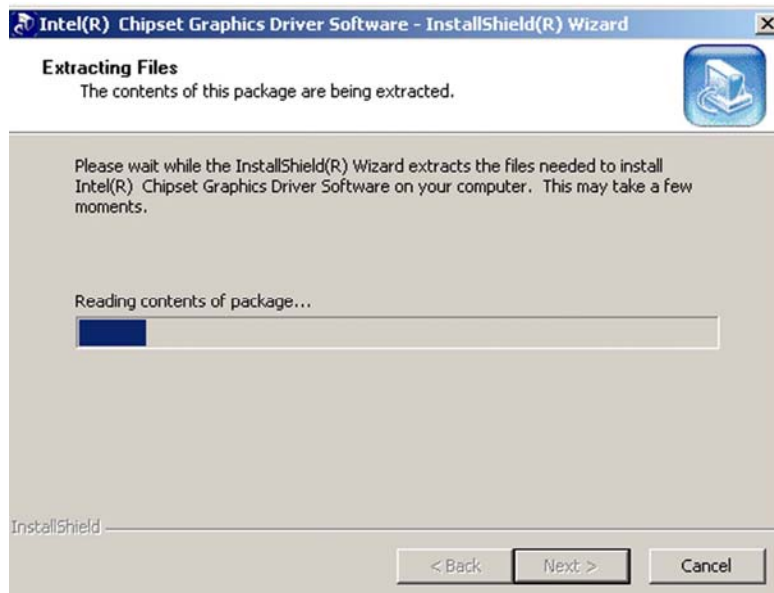

Figure 7-12: GMA Driver File Extraction
Step 5: Click **NEXT** to extract the GMA driver files. See **Figure 7-12**.